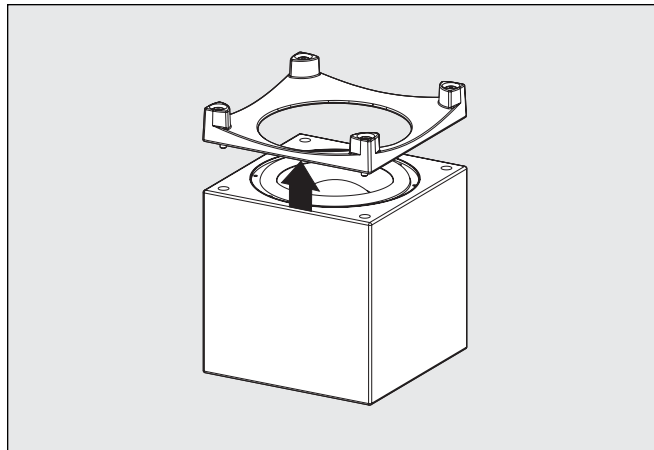

Figure 16. Step 1—Converting the Dynamo to a front firing configuration.
- 1 Prepare a flat surface with a blanket to protect the Dynamo's finish. Unplug signal and power connections. Turn the Dynamo upside down. Gently lift and remove the Dynamo base (see figure 16).